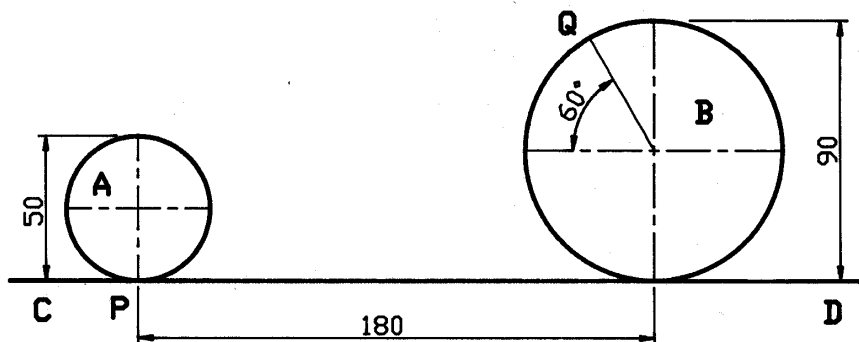

Fig. 4
4. Fig. 4 shows two circles, A and B, touching the line CD. Also shown are two points P and Q on the circumferences of the circles. Circle A rolls clockwise and circle B rolls anti-clockwise along the line CD.